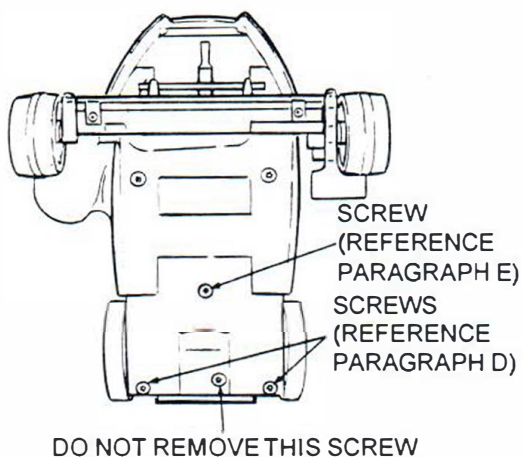

Figure 15. Bottom of Drive System Assembly Housing
- C. Turn the power unit over as shown in Figure 15.